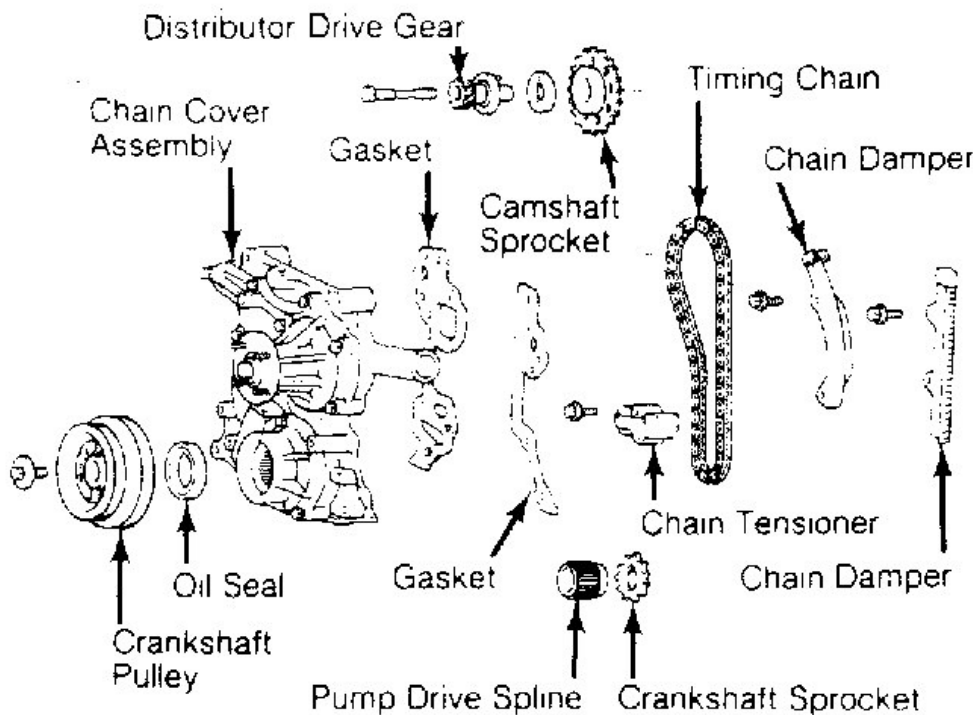

Fig. 3: Exploded View of Timing Chain Components
2. Remove power steering belts (if equipped). Remove A/C belt, compressor and bracket (if equipped) and lay aside. Remove fluid coupling with fan and coolant pump pulley. Set No. 1 cylinder to TDC of compression stroke. Remove crankshaft pulley. See **Fig. 3**.